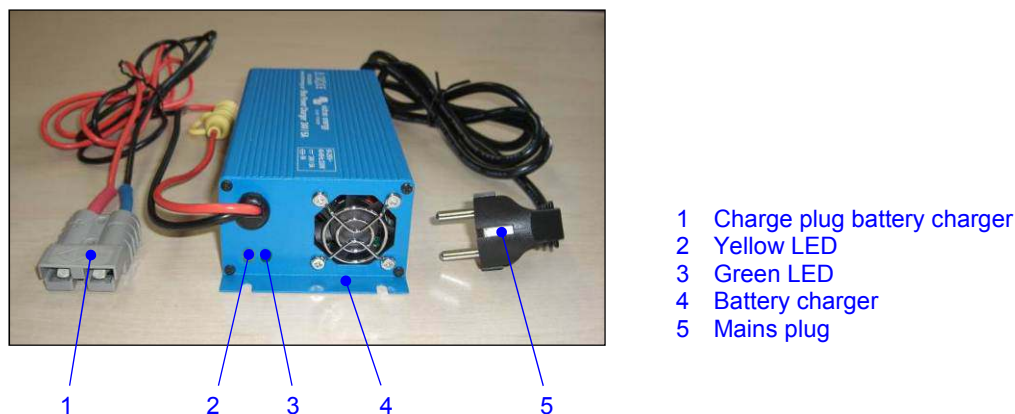

Fig. 10: Battery charger (example illustration)
- For charging the battery a charging unit 24 V / 5 A is included in the delivery by the counterweight balancer manufacturer (see fig. 10).